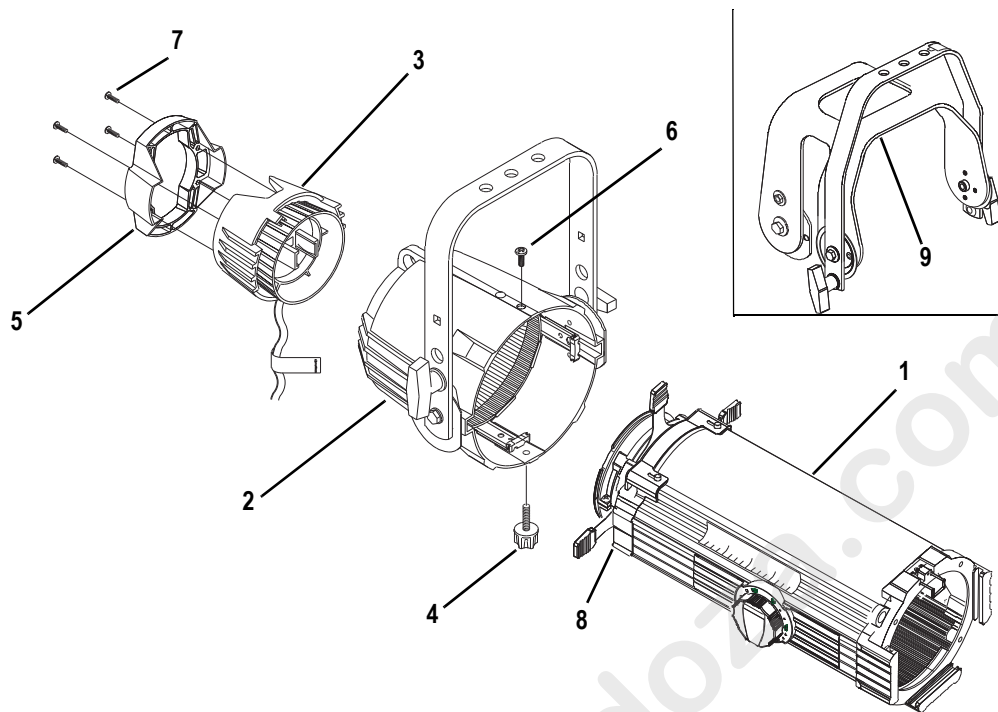
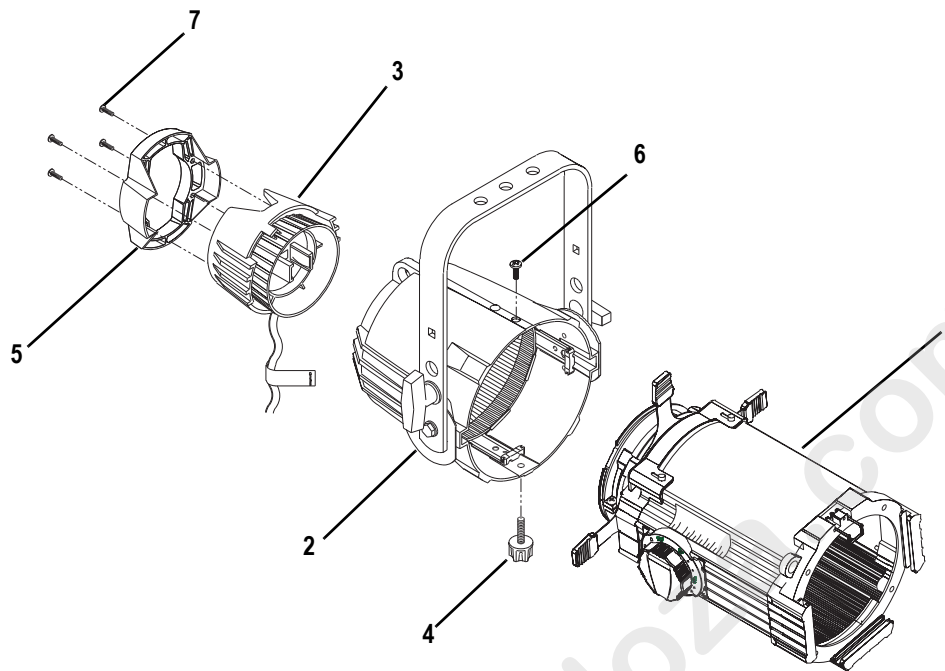

Figure 1
Figure 2
- Step 5: Insert lens tube assembly (1) fully into the reflector housing assembly (2). Turn lens tube assembly 1/4 turn and align the two mounting holes. Secure with screw (6) on top, and knob (4) on bottom. Tighten both securely. See Figure 1 or Figure 2.
- Step 6: Install the lamp socket assembly (3) to the reflector housing (2) and secure with brass knurled screw on rear of lamp socket assembly.